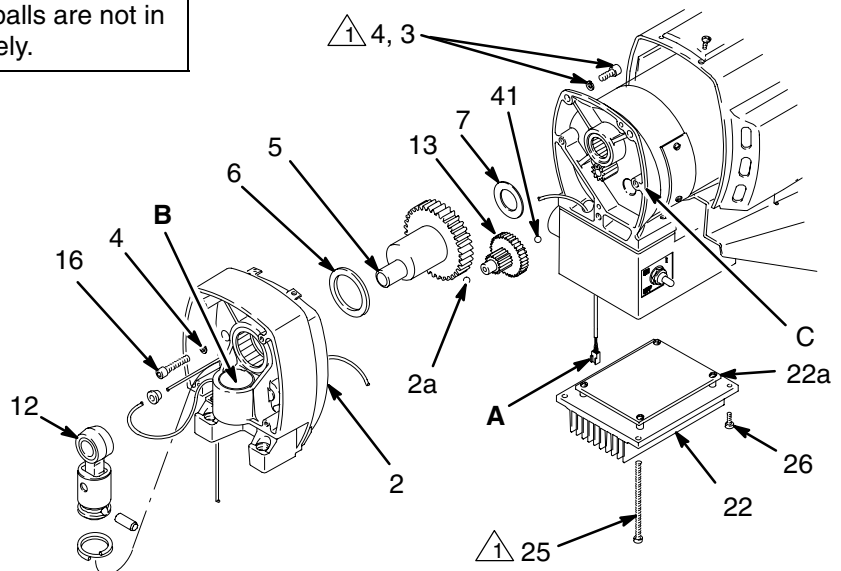

Fig. 14
2. Remove screws (25, 26) and lower heat sink (22). See Fig. 14.
3. Remove rubber boot (82). See page 20.
5. Install switch so internal tab of anti-rotation ring (81) engages with vertical groove in threads of switch, and external tab engages with slot of junction box. See page 20.
6. Powder inside of rubber boot (82) with talcum, then shake excess out of boot. Install nut and rubber boot and tighten.
7. Reconnect black, white, brown and blue wires to ON/OFF switch (80).
8. Install heat sink (22) with screws (25, 26). See Fig. 14. Be sure no leads are pinched between motor control board or other components.
3. Remove potentiometer knob (27).
4. Remove shaft sealing nut (76).
5. Disconnect and remove potentiometer (77).
6. Install and connect new potentiometer (77).
7. Install shaft sealing nut (76).
8. Install potentiometer knob (27).
9. Install heat sink (22) with screws (25, 26). See Fig. 14. Be sure no leads are pinched between motor control board or other components.
5. Remove three drive housing screws (16) and lockwashers (4). Also see Fig. 14.
6. Remove two motor screws and lockwashers (3, 4). See Fig. 14.
NOTE: See Fig. 14 and 15 for this procedure.